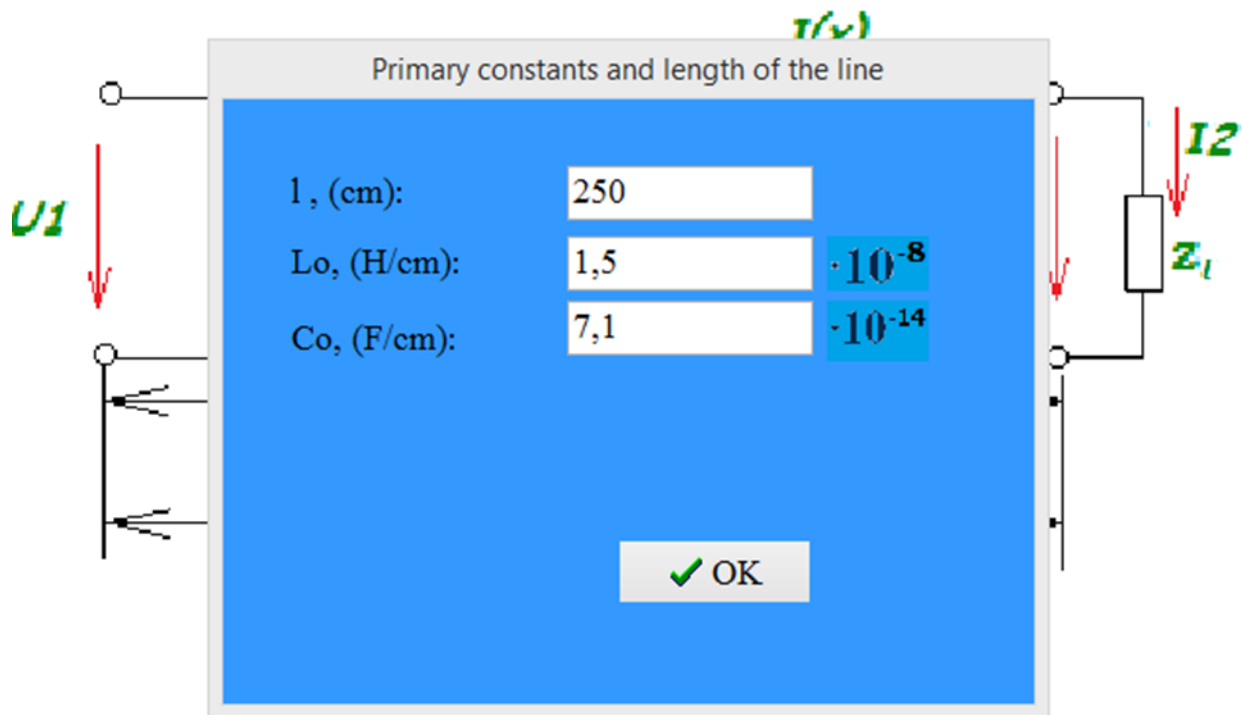

Figure 7.4 – Entering line parameters
2. To open the “Primary parameters” window, click on the “Line” button. In the window that opens, enter the length of the line and its primary parameters (figure 7.4) and click “OK”.